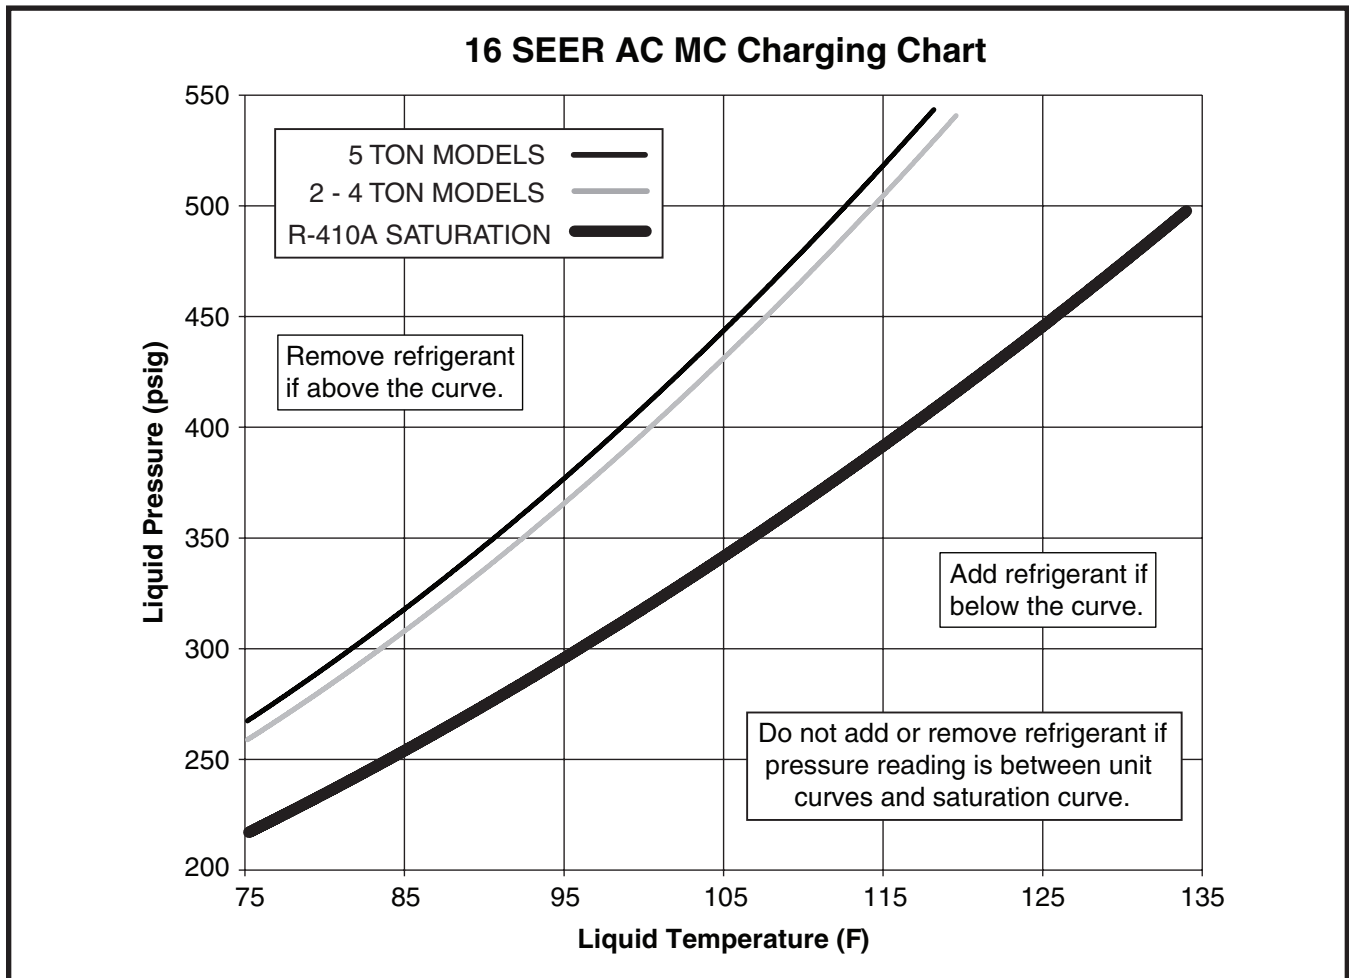

Figure 4. Charging Chart for 2-5 Ton Models
- Refrigerant charging charts are applicable only to matched assemblies of NORDYNE equipment and listed airflows for the indoor coil. Refer to Figure 4, \(page 8\) for correct system charging.
3. Determine the required liquid refrigerant pressure from the appropriate charging chart. See Figure 4, \(page 8\).
- Charging charts are valid for a variety of indoor, return air conditions and are most influenced by the outdoor ambient temperature, outdoor fan operation and the unit operating voltage. Before using these charts, make sure the unit is in a stable operating mode. As shown in the charging chart (Figure 4), the ideal system sub-cooling can vary over the range of operation. Reference the charts to determine the ideal amount of sub-cooling for a given liquid pressure. Units charged to other values will not perform at the rated unit efficiency (EER) or rated Coefficient of Performance (COP) in heating mode.